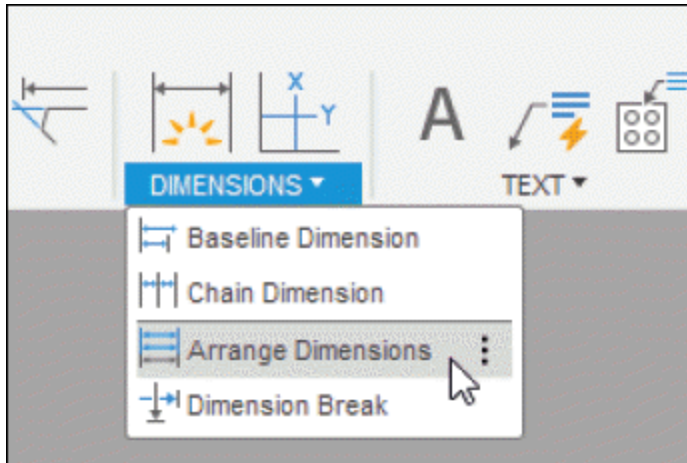
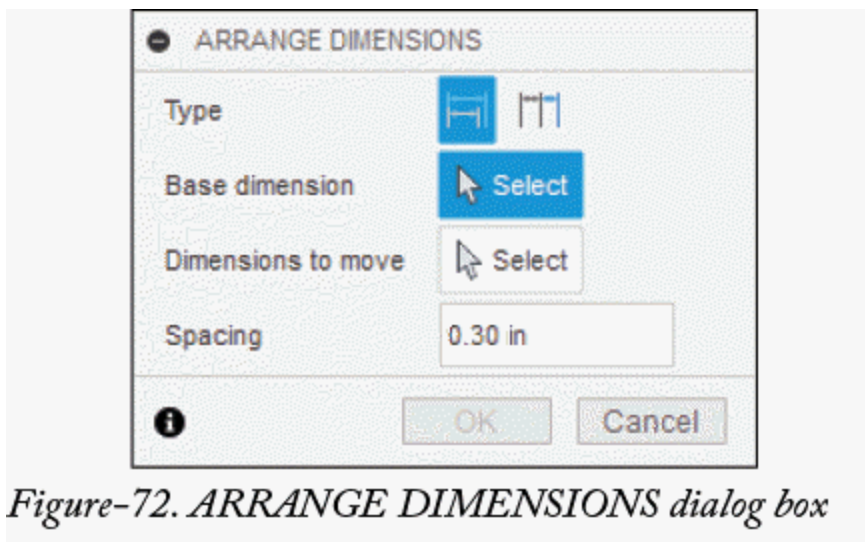

Figure-71. Arrange Dimensions tool
Figure-72. ARRANGE DIMENSIONS dialog box
- Click on the **Arrange Dimensions** tool from **DIMENSIONS** panel of the **Toolbar**; refer to Figure-71. The **ARRANGE DIMENSIONS** dialog box will be displayed; refer to Figure-72.